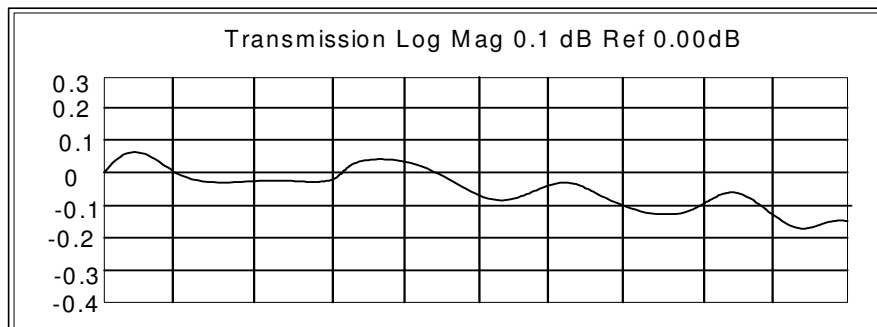

Figure 9 - A typical Transmission measurement of a coaxial cable.
3. Verify that the measurement trace falls within  $0 \pm 1.5$  dB. See Figure 9 for a typical result. **Save the data on magnetic media.**